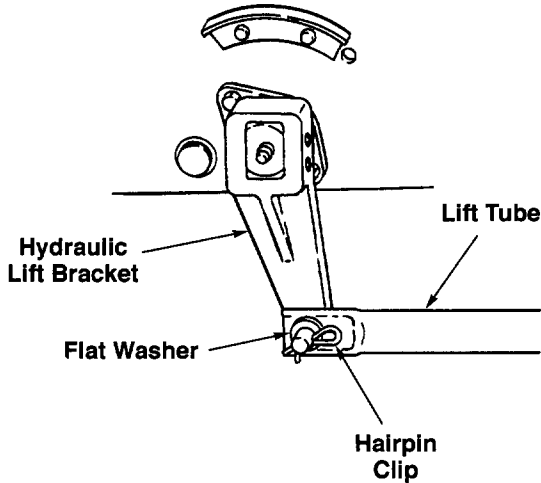
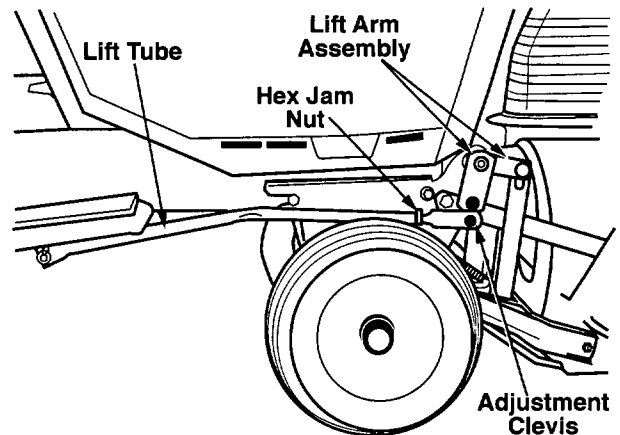

Figure 19. Hydraulic Lift Bracket Shown.
Figure 21
9. With the form (bend) of the lift tube facing upward (see Figure 21), install the lift tube/adjustment clevis assembly (1-4) on the lift bracket (1-6 or 3-12) using the flat washer (2-19) and hairpin clip (2-18). Refer to Figure 19.
If not already loose, loosen the hex jam nut on the adjustment clevis by turning the nut completely up on the threads of the clevis. See Figure 21.
- b. Turn the adjustment clevis into or out of the lift tube as necessary to align the holes of the clevis with the hole of the outer lift arm. Refer to Figure 21.